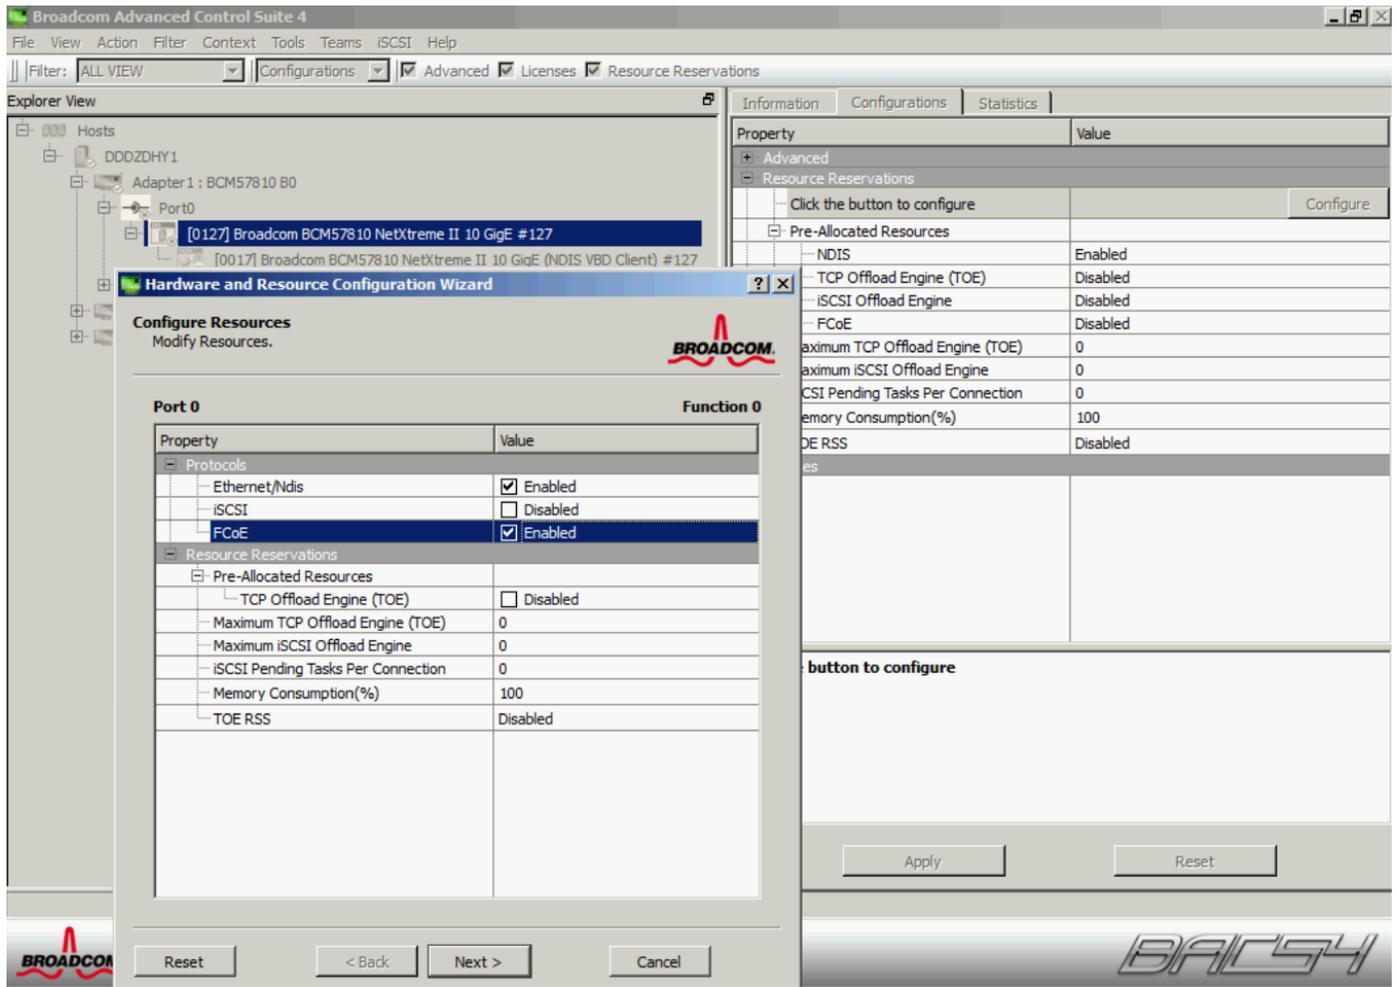

Figure 9 Enabling FCoE on Broadcom 57810 CAN
- Use the **Broadcom Advanced Control Suite 4** to enable FCoE by selecting the single partition under each port and clicking the **Configurations** tab on the right. Click the **+** symbol next to **Resource Reservations** and click the **Configure** button. Check the checkbox next to **FCoE** (Figure 9).